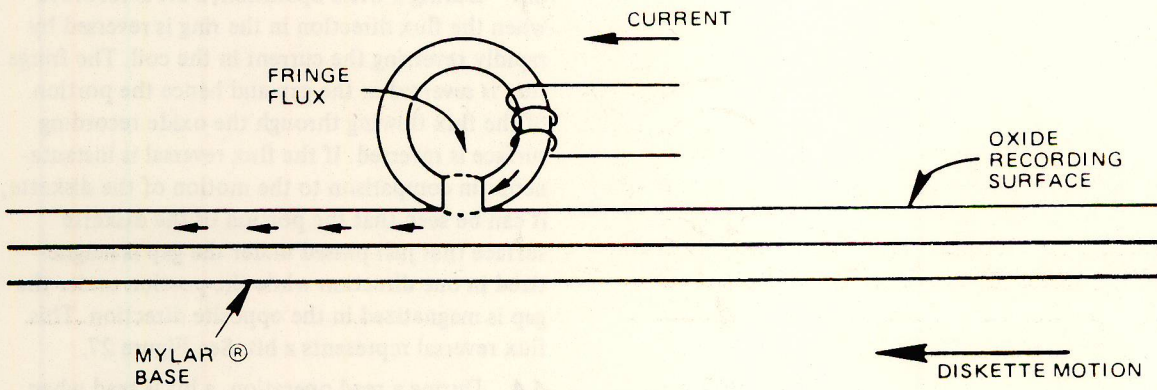

FIGURE 26 BASIC R/W HEAD
4.2 The read/write heads are similar to a ring with a gap and a coil wound some point on the ring. When current flows through the coil, the flux induced in the ring fringes at the gap. As the diskette recording surface passes by the gap, the fringe flux magnetizes the surface in a horizontal direction. See Figure 26.